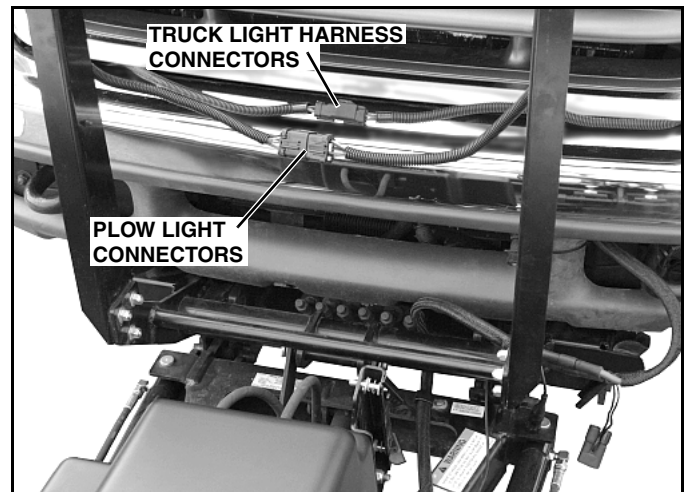

Figure 1-16
3. To prevent corrosion on the contacts, plug the male and female connectors on the plow together (See Figure 1-16).
4. To make the truck lights operable, plug the male and female connectors on the truck light harness together (See Figure 1-16).